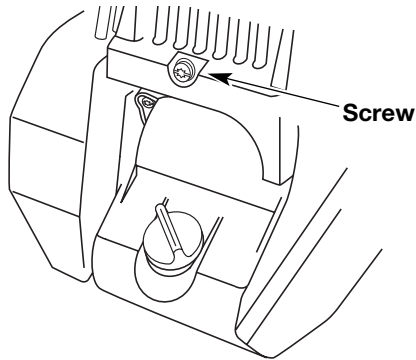

Fig. 64
- Remove the screw behind the engine cover (Fig. 64).